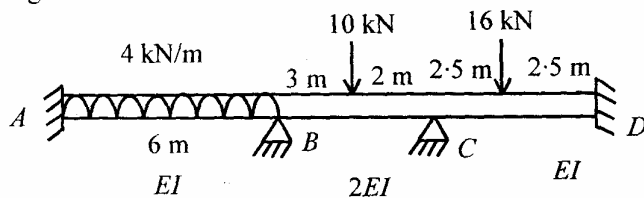

Fig. 3
4. Analyse the continuous beam ABCD as shown in Fig. 3 by moment distribution method and draw bending moment diagram. 20